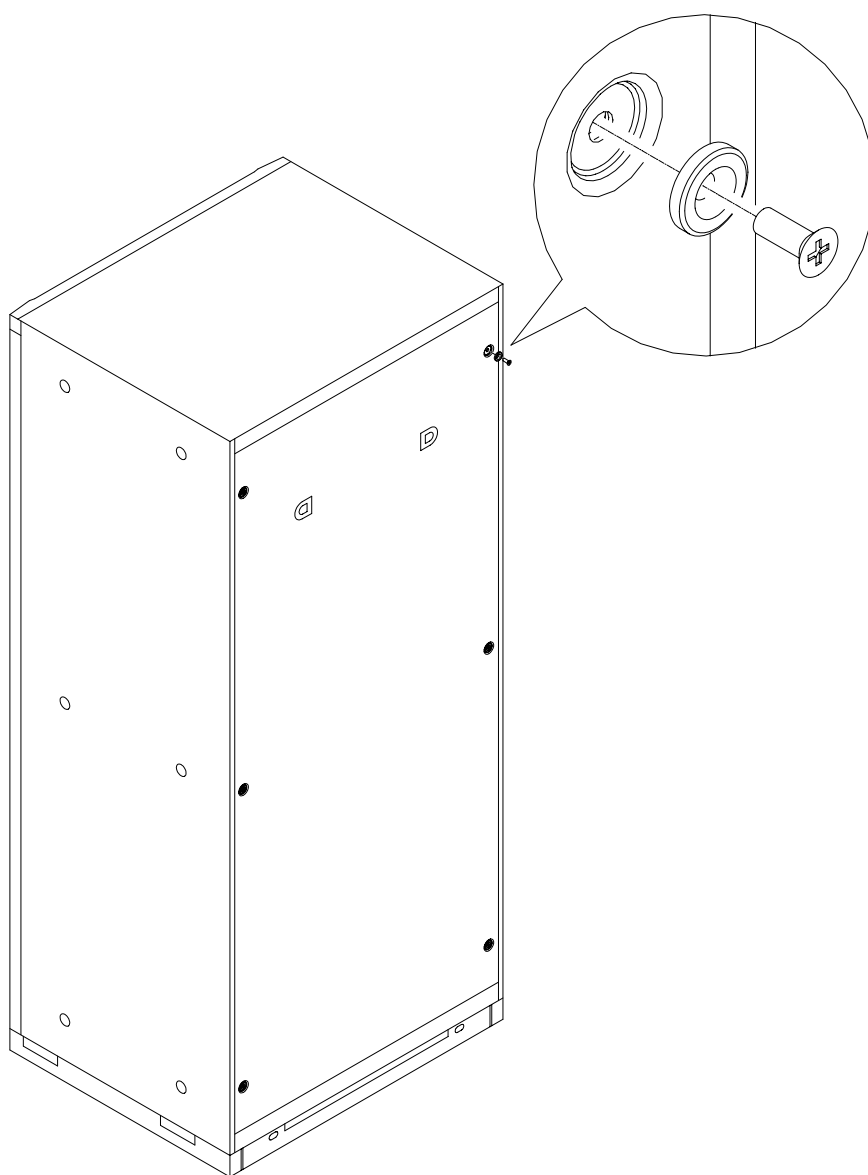

Figure 3-4 The position of captive screws
- 2) Mount and fix six captive screws on the rear door, as shown in Figure 3-4.